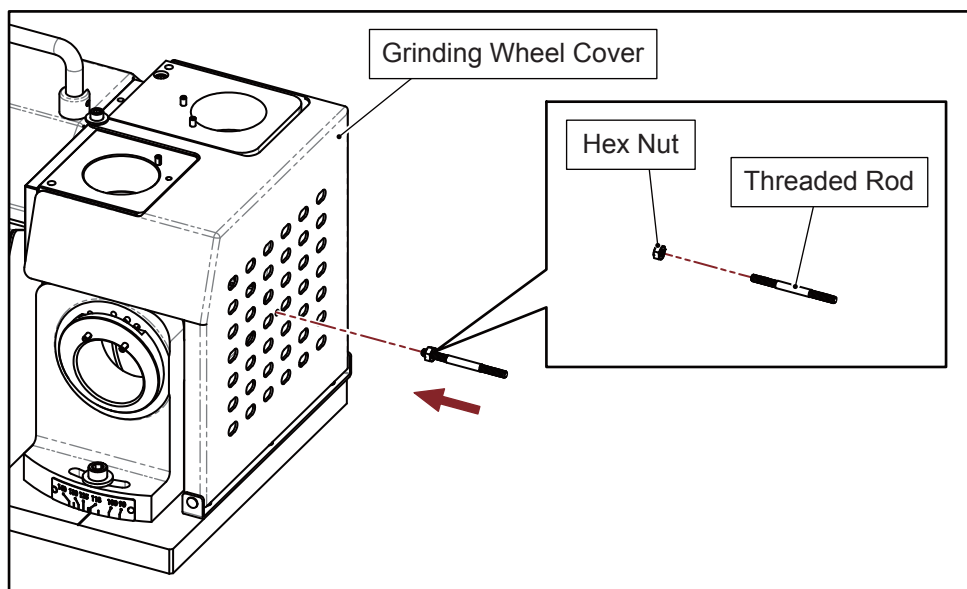

Fig. 4-1
1. Thread the hex nut onto the proper position of the threaded rod, align the end of the threaded rod containing the hex nut with the tapped hole of grinding wheel cover, and turn the threaded rod clockwise to thread the rod into the grinding wheel cover and tighten lightly. (Fig. 4-1)